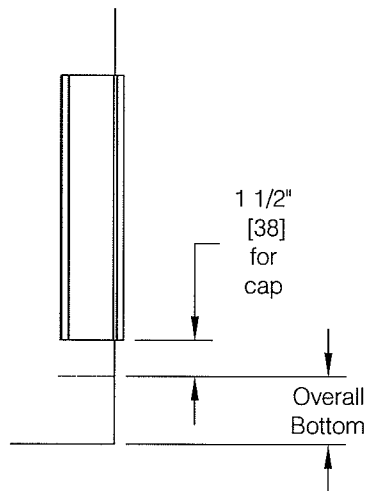

**fig 2a**
**Step 2:** If installing on gypsum wall with stud backing proceed to **step 3**. If installing on masonry pre-drill clearance holes in galvanized steel retainer for hardware listed below using a #15 (.180") bit for #8 fastener. Locate mounting holes at closure caps and along the retainer length not to exceed 32" on center. Locate first hole in retainer 1 1/2" in from end and 1/2" in from vertical edge, see **fig 2a** and **2b**.
*Drywall Installation:* Locate mounting holes at closure caps and along the retainer not to exceed 32" on center. Begin 1 1/2" from end and 1/2" in from vertical edge, see **fig 2a** and **2b**. If it is necessary to install fasteners in locations where there is no metal backing or stud use caps and pre-drilled steel as a template to mark and drill wall for plastic Alligator® insert in accordance with instructions provided with hardware.